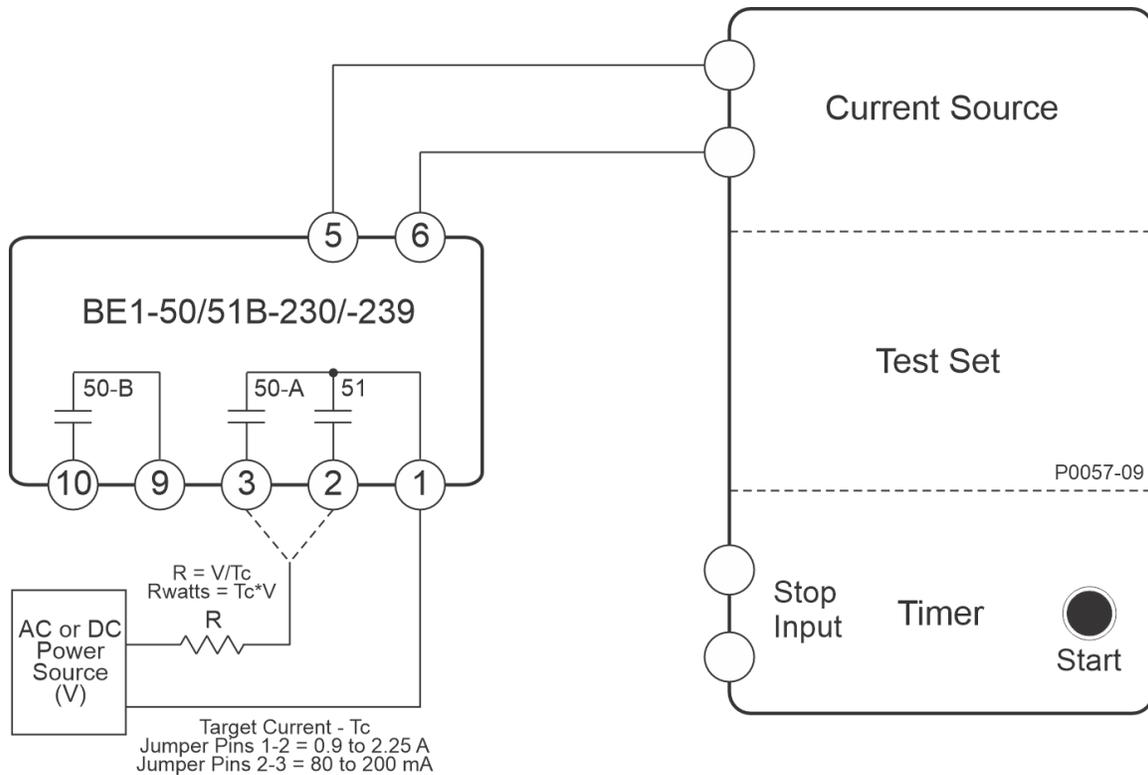

Figure 5-4. Target Indicator Test Setup
- a. Connect the test setup shown in Figure 5-4.